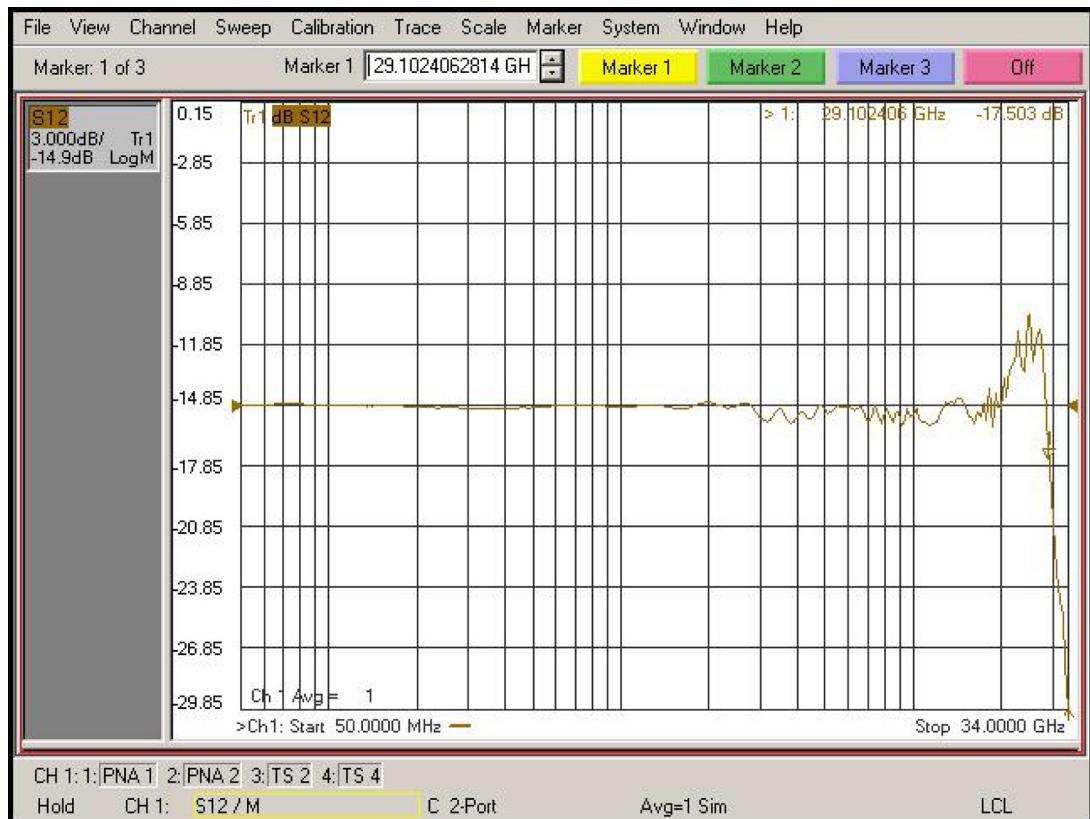

Figure 67 De-embedded “Vout/Vin” response of the probe
- b Again, adjust the "Reference Level" in the scale menu so the 50MHz point is at center screen. The display should look like **Figure 67**.